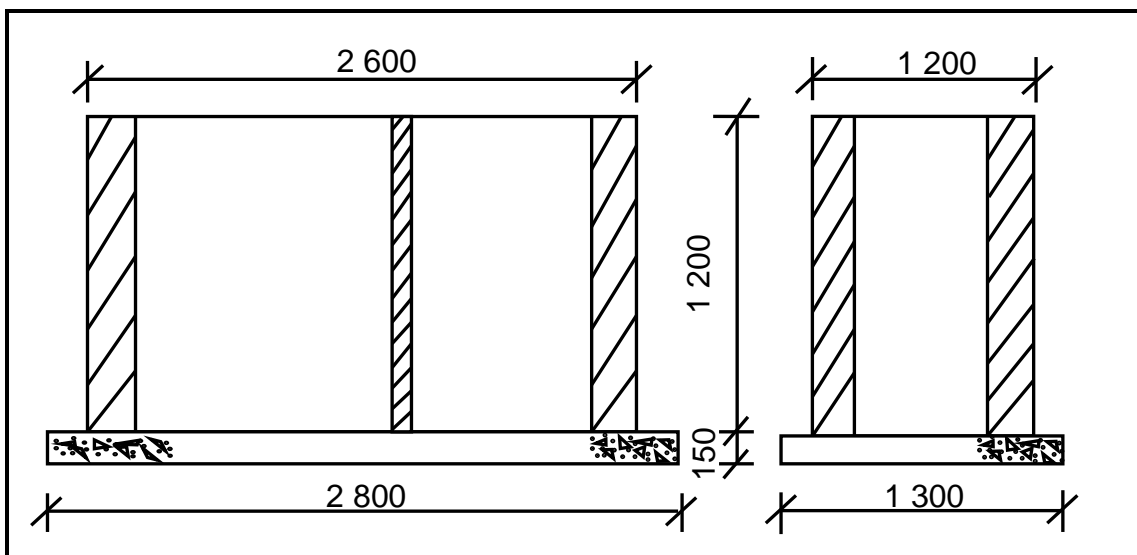

FIGURE 3.6
3.6 FIGURE 3.6 below is a drawing of the incomplete sectional view through the bricks and concrete floor of a septic tank. Use ANSWER SHEET 3.6 and answer the questions that follow. Round off your answer to TWO decimal places.